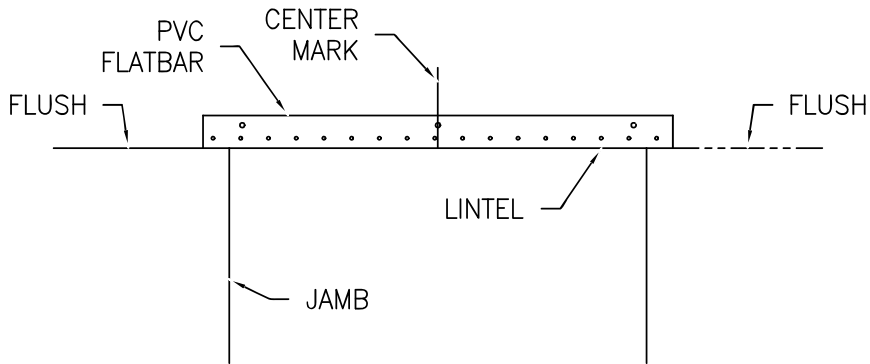

FIG. 5
- Put PVC flat bar against wall above door opening (Fig. 5).
- Ensure that bottom edge is flush with lintel and that centre mark of PVC angle lines up with centre mark on wall (Fig. 5).